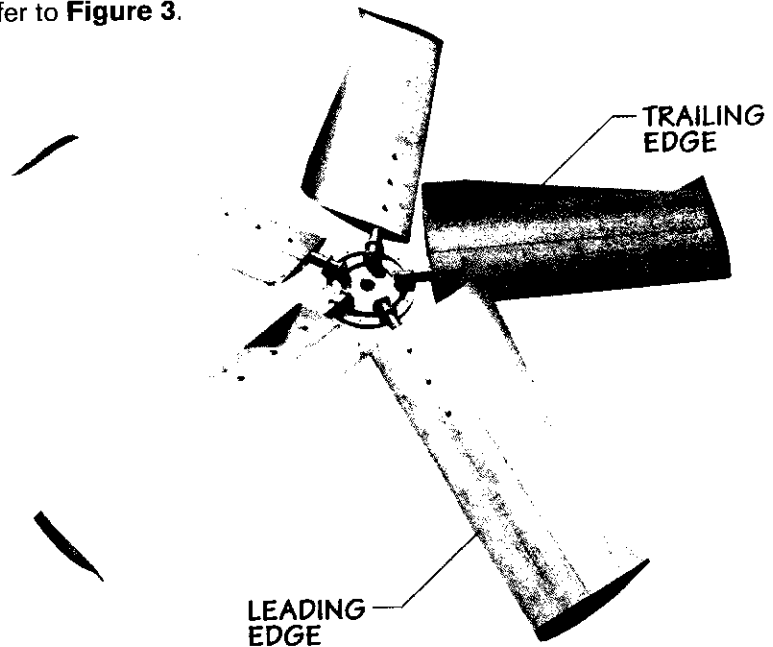

Figure 2
- 3—Place a blade **2** in a blade socket on the hub. On fans where the blades overlap at the hub be sure to have the leading edge under the trailing edge of the forward blade. Refer to **Figure 2**.